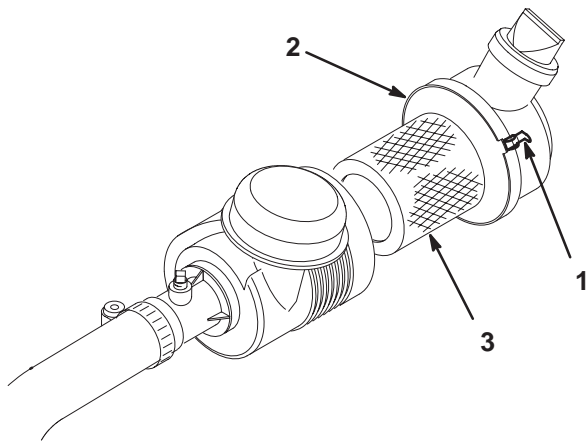

Figure 44
1. Release the latches securing the air cleaner cover to the air cleaner body (Fig. 44). Separate the cover from the body. Clean the inside of the air cleaner cover.
3. Reinstall the cover and secure the latches (Fig. 44).